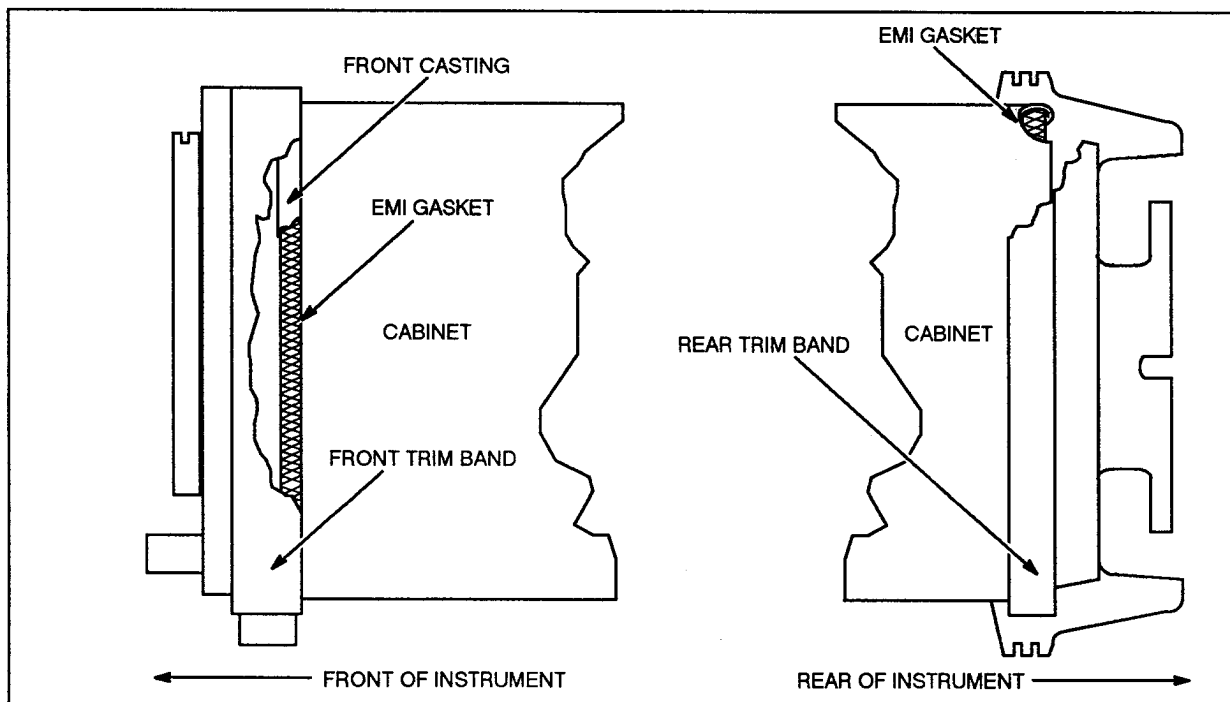

Figure 6–2a: Placement of cabinet on EMI rope gasket.
- b. Align the front edges of the cabinet with the EMI rope gasket (see Fig. 6–2a).